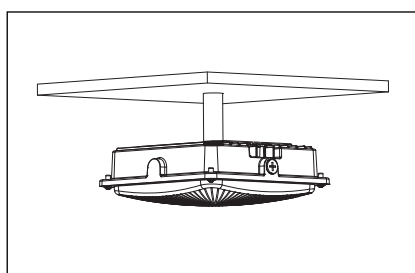

Figure 3
3. Screw the lamp and conduit pole together tightly. (Figure 3)